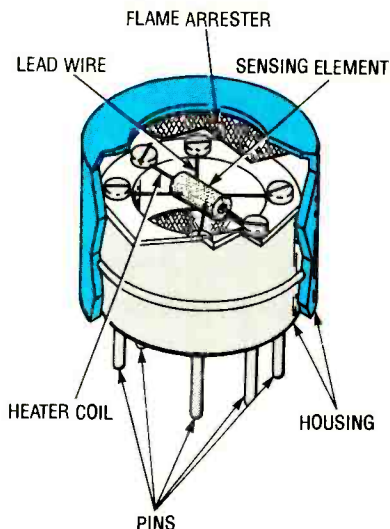

Fig. 1. At the heart of the Explosive Gas Detector is a TGS822 gas sensor.
**The Sensor.** At the heart of the circuit is a TGS822 gas sensor (see Fig. 1), which contains a miniature nichrome wire heater (that has a nominal resistance of 38 ohms), which is used to keep the surface of the tin dioxide ( $\text{SnO}_2$ )